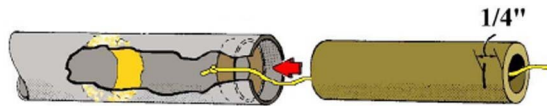

Figure 2
- **Step 3** Mark an expended 13mm motor casing at 1/4" from one end. Apply a generous bead of glue, about 1/4" wide, to the inside of the body tube about 1 1/4" from the bottom end of the tube. As shown in Figure 2, with the knot to the front side of the ring, pull the Kevlar thread down through the center of the casing. Use the casing as a depth gage and push the TB-5 ring inside the body tube, up through the glue, until the mark on the casing is even with the edge of the tube. Remove the casing from the tube, but do not push the Kevlar thread back into the tube at this time. Allow this to completely dry.